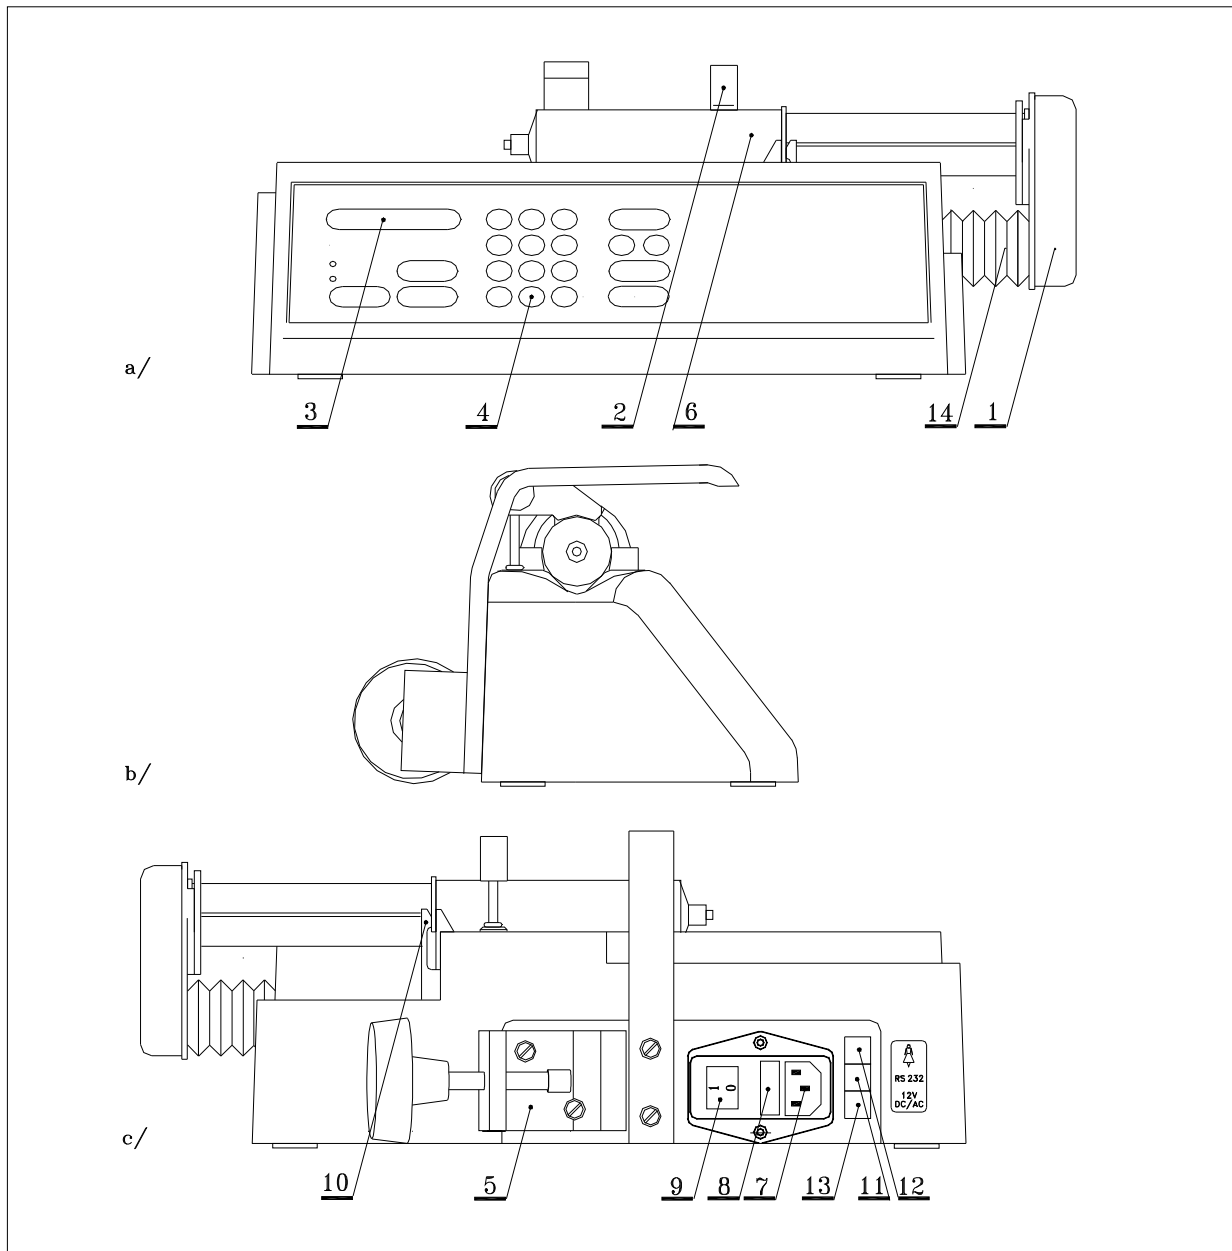
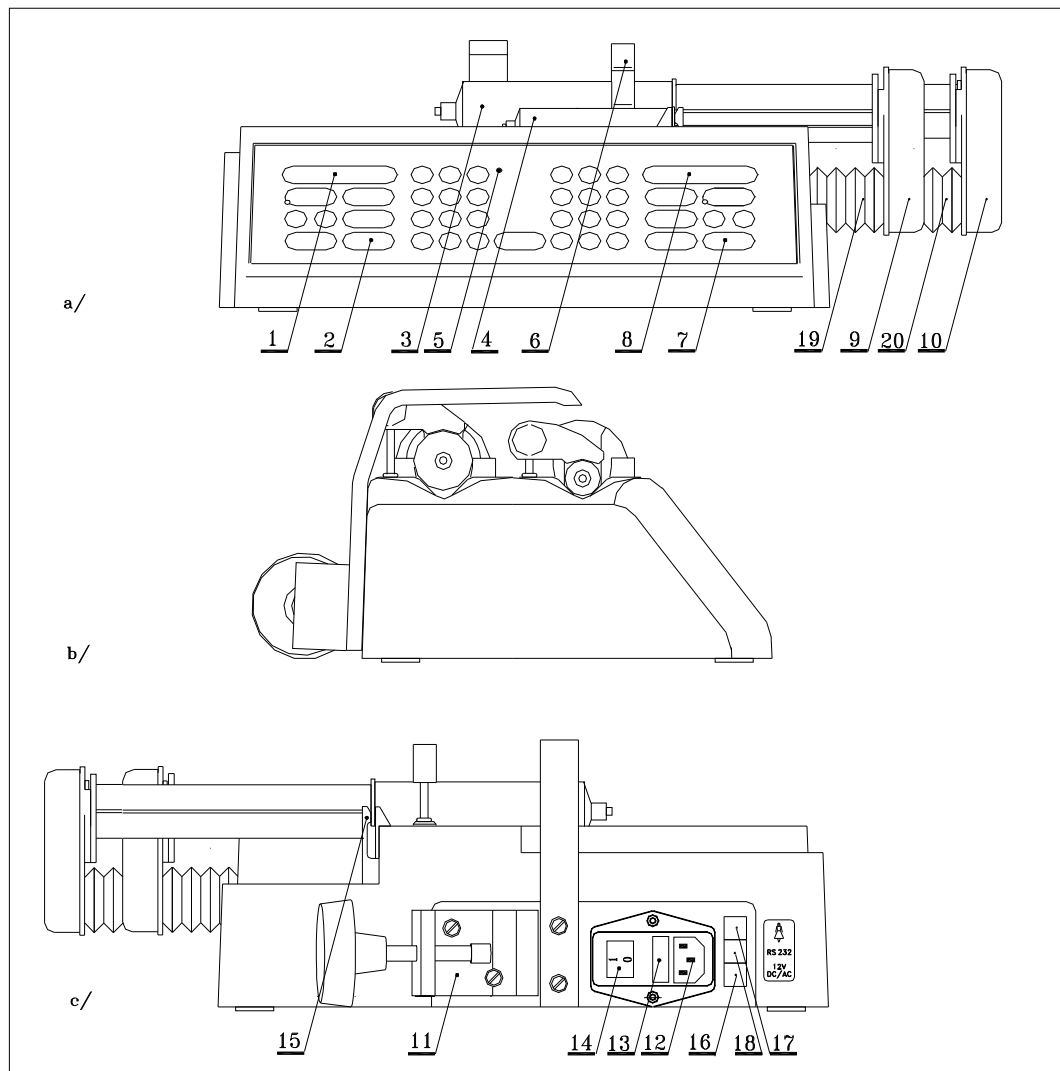

Fig. 1. **Pump AP 12, view from:** a) front , b) side , c) back
Fig. 2. **Pump AP 22, view from:** a) front, b) side, c) back
It is possible for the pump to be mounted on a horizontal tube (e.g. by patient's bed). This can be done by removing two screws that hold the clamp (Fig. 1, pos. 5) turn the clamp by 90° and replace the two fixing screws. Make sure that the clamp is correctly fixed to the pump body and begin the installation on a horizontal tube.
1. Position the pump on a horizontal surface or fix it on the pole using the clamp (AP 12 - Fig.1, pos. 5; AP 22 - Fig.2, pos. 11).
- The syringe should be fixed in such way that its stem end is inside of pump arm end (Fig.1, pos. 1), and the syringe wings are in the gap between the casing and the locking plate (Fig. 1, pos. 10). Then the syringe must be locked with clamp (Fig.1, pos. 2) positioning it perpendicularly to syringe axis. Make sure the syringe plunger is positioned along syringe axis